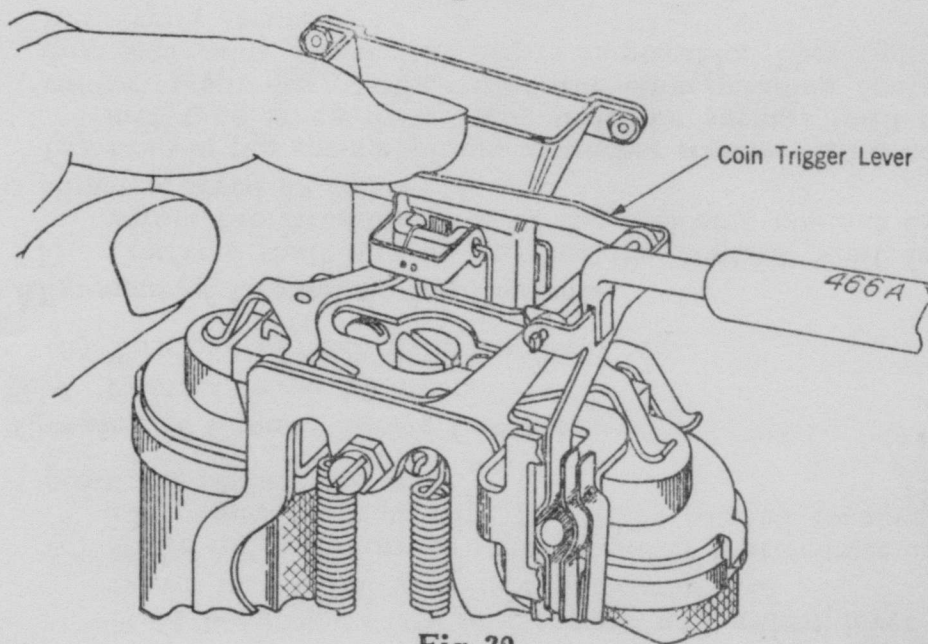

Fig. 20.
- (b) Hold lever down on coin trigger and adjust lever as shown on Fig. 20 to meet requirement 5.13.